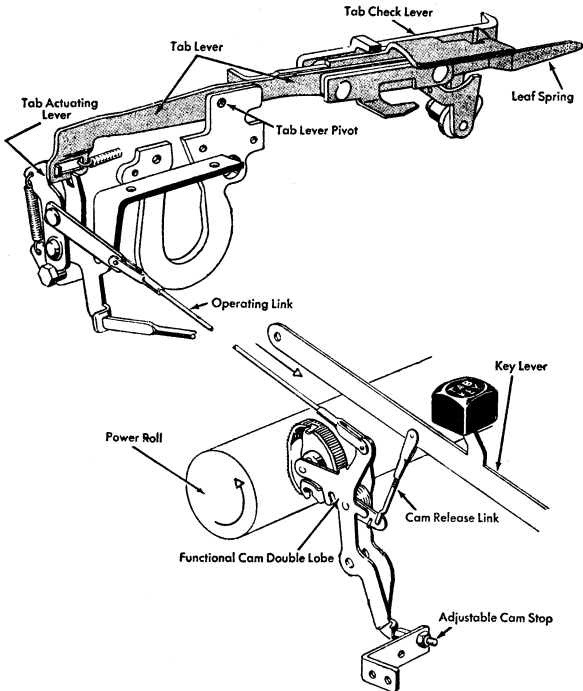

Figure 29. Tab Adjustment
2. **CAM RELEASE LINK.** Adjust so that the cam is released when the key lever is depressed 2/3 of its downward travel (Figure 29).